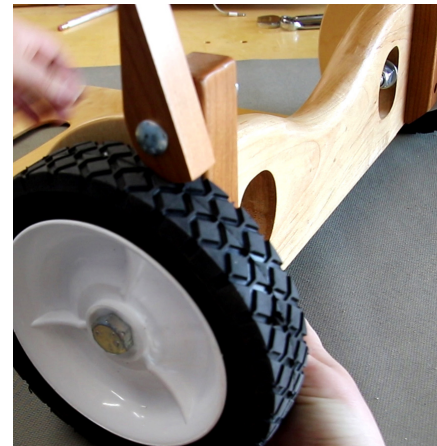

FIG. 14A
- \_\_\_14. Tip the cam forward about 5 degrees. This will help hold the brake in place while you drill the top pilot hole. Align the brake next to the wheel. Let the brake rest on top of the wheel. (fig. 14A)